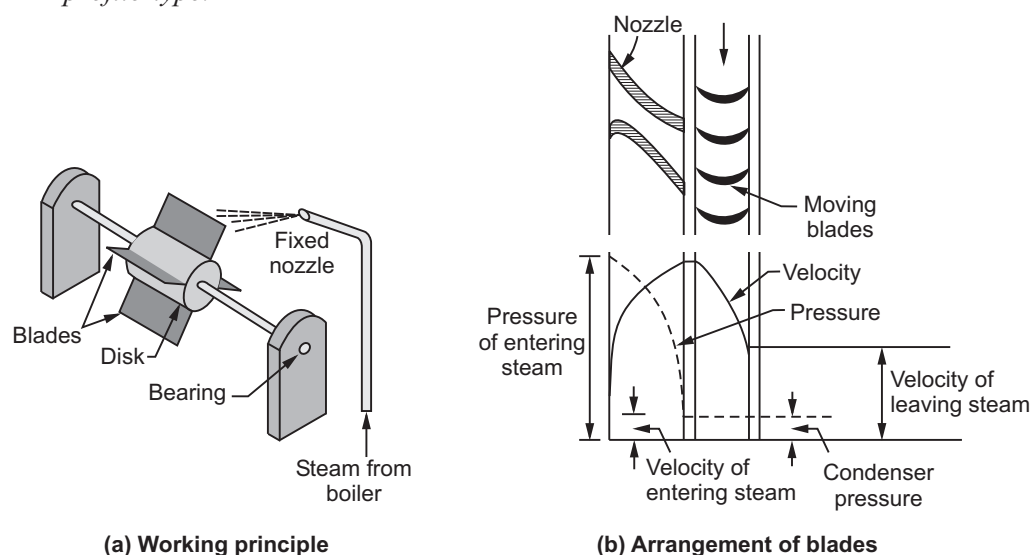

Fig. 3.2 : Impulse turbine
- In these turbines, the steam comes out at a very high velocity through the fixed nozzle and impinges on the blades fixed on the periphery of a rotor. Refer Fig. 3.2 (a).
- Fig. 3.2 (b) shows the blade arrangement for impulse turbine and the variation of pressure and velocity of steam passing through the turbine.